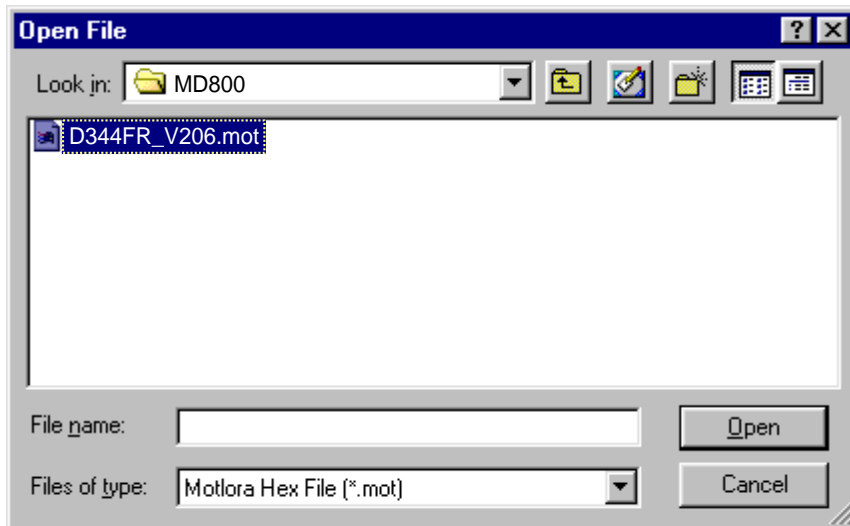

Fig.6-4
4. On the Main window, press the “OPEN2 button, and the window shown in Fig.6-4 will appear.